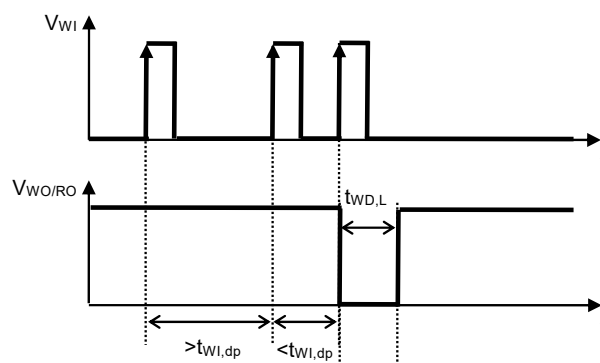

Figure 8 Watchdog Double-pulse Detection Time
- *3. The time from when the watchdog timer initiates the detection of a trigger signal to when a trigger is detected again before $t_{WI,dp}$ elapses and the WO / RO pin output changes to "L" (Refer to **Figure 8**). This value changes according to C_{DLY} .